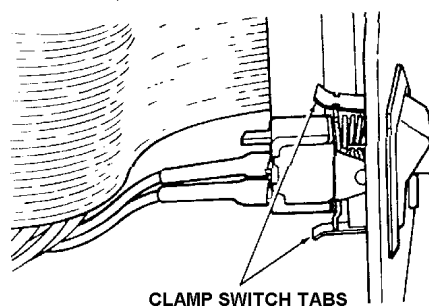

Figure 26. Clamp Switch Removal.
- c). Pull away two tabs to remove the switch (See Figure 26).